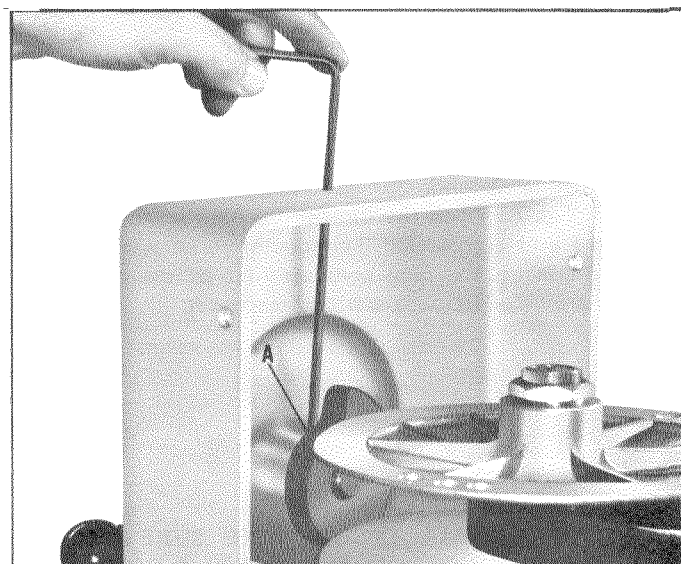

Fig. 3
A drag plug or "dampener" is provided to restrict the free rotation of the pilot wheel. The drag plug is properly adjusted at the factory so that the drill press will hold a constant speed and will not change speeds even on long production runs, but still the pilot wheel can be turned manually to change speeds as desired. If it ever becomes necessary to change the adjustment, use a long allen wrench and insert it down through the hole located in the top of the guard, as shown in Fig. 3. Turn the set screw (A) Fig. 3, clockwise to increase or counter-clockwise to decrease the "dampener" pressure on the pilot wheel.